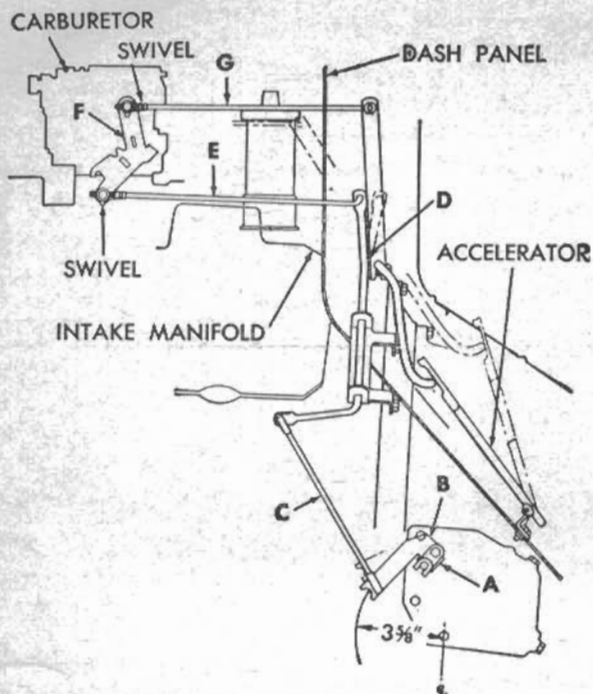

Fig. 26 Throttle linkage adjustment. 1957 V8 Powerglide
1. Referring to Fig. 26, remove rod C.
3. With suitable gauge in place so as to obtain the $3\frac{5}{8}$ " dimension between the points indicated in Fig. 26, tighten lever B to clamp A.